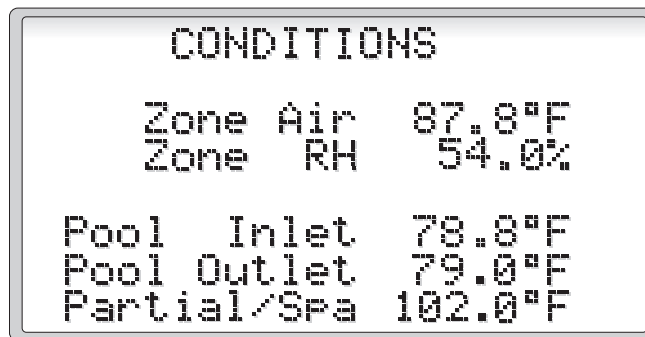

Figure 31
2.3.3.2.1 System Setup (Figures 31 and 32)
Selecting the SYSTEM SETUP from the Commissioning Menu displays the CONDITIONS screen (Figure 31). This screen displays the zone air conditions, and the pool water temperatures, if a pool water condenser is provided. This screen allows for these conditions to be viewed before the commissioning test are done while staying in the Commissioning section of the Service Menu.